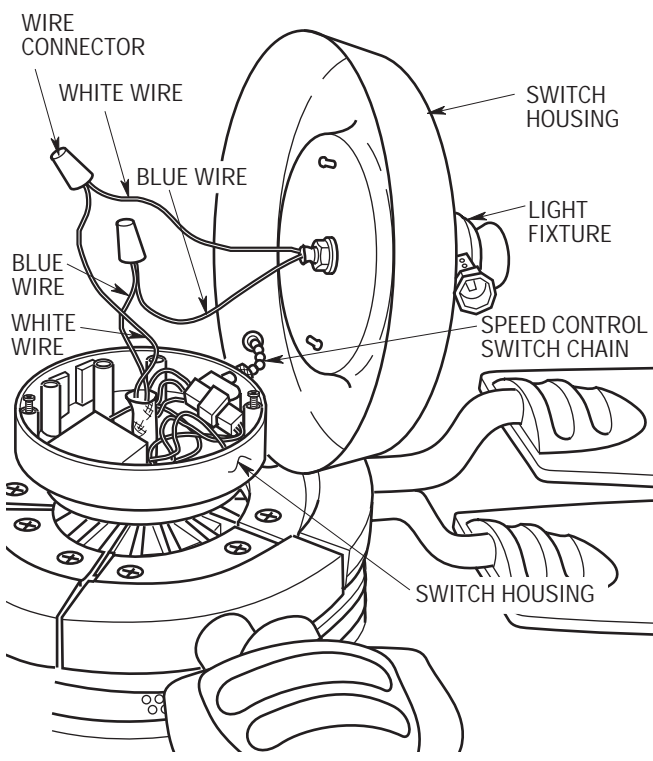

Figure 15
24. Remove the wire connectors from the blue and white wires in the switch housing. Connect the switch housing blue wire to the blue wire from the switch housing cover/light fixture assembly; connect the switch housing white wire to the white wire from the switch housing cover/light fixture assembly (Figure 15). Secure the wires using the wire connectors previously removed.